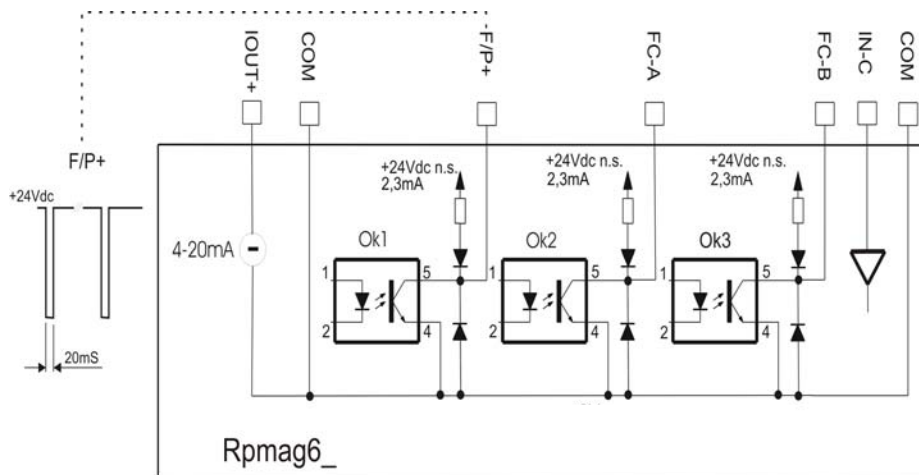

Figure 25
12.1.3 Electrical connection for digital signal output (Fig.25)